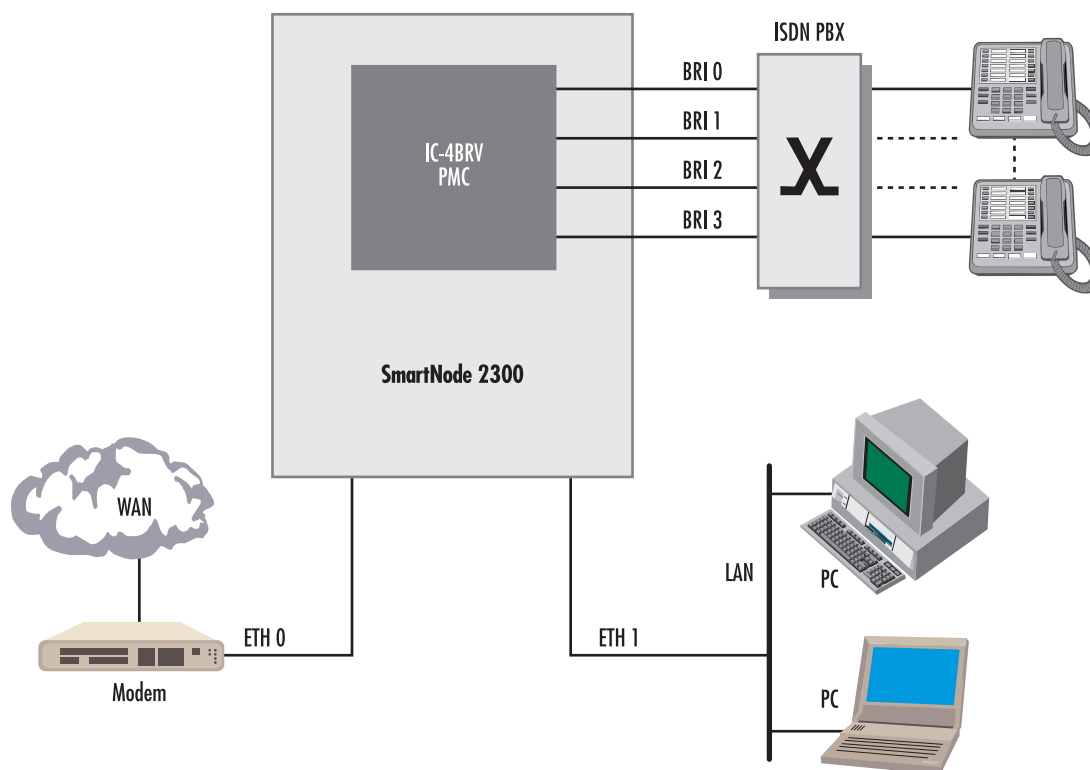

Figure 31. SmartNode 2000-Series device connected to a PBX via four BRI ports
In figure 31 the SmartNode 2000 series with an optional IC-4BRV interface card installed is used as a voice gateway and IP router in a company branch office.
- Figure 31 on page 56